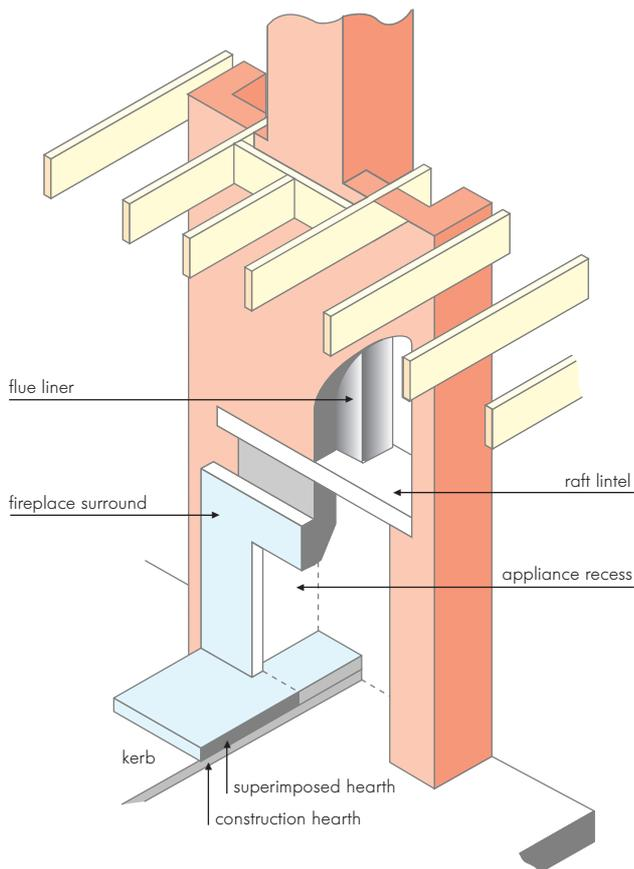

Fig 42
**Fireplace surrounds** are normally manufactured off site, and often in the form of a single slab with fixing clips at the side for screwing into the chimney breast. The surround is usually supplied with an associated superimposed hearth or slab suitable for laying directly on the constructional hearth on a thin bed of weak mortar. See Fig. 42.